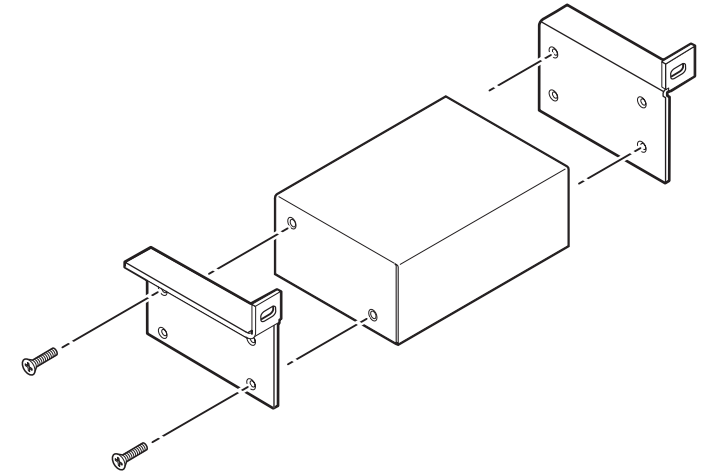

Figure 5 — Attaching the back of the rack kit
The MDA can be mounted to the rear of a rack using the Extron MBB 100 VersaTools back of the rack mounting kit (part #70-367-01) (figure 5). The kit allows the product to be vertically mounted to the front or rear rack supports and facing towards either the front or the rear of the rack.
3. Attach one bracket to the side of the unit (figure 5) using the longer screws included in the kit.